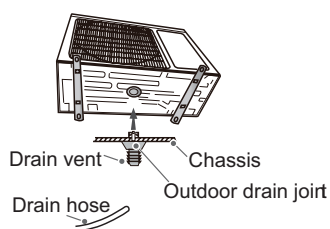

Fig. 19
- (1) Connect the outdoor drain joint into the hole on the chassis.
- (2) Connect the drain hose into the drain vent. (As show in Fig. 19)